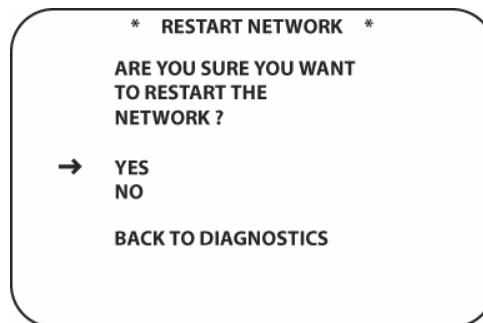

Figure 123 Restart Network
4. With the cursor next to **RESTART NETWORK**, press the **Set Button [oval 18]**. The **RESTART NETWORK** screen will appear. (Figure 123)